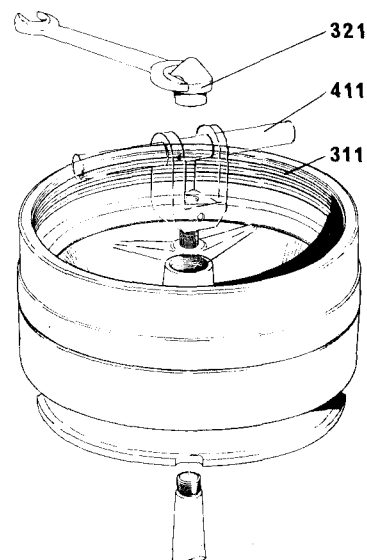

Fig. 2/6
- 3) Screw on spindle nut 321 tightly (left-hand thread). See fig. 2/6.
- 4) Install wear liner 305 into bowl bottom (see fig. 2/7).